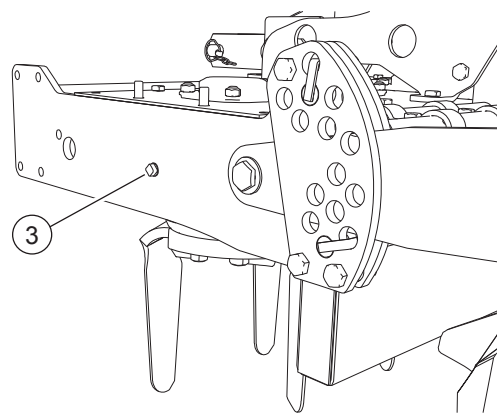

FIG. 39
- Place a basin under the oil drain plug (3, “Fig. 39”).